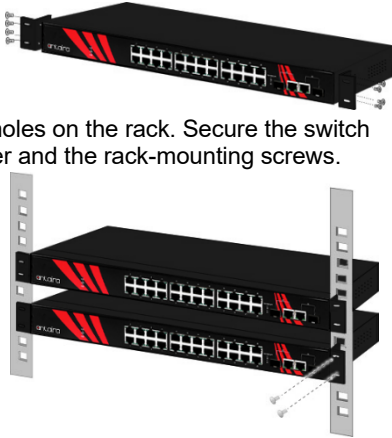

Figure 4
1. Insert the positive and negative wires into the **PWR1 (V1+, V1-)** and **PWR2 (V2+, V2-)** contacts on the terminal block connector. *See Figure 4.*